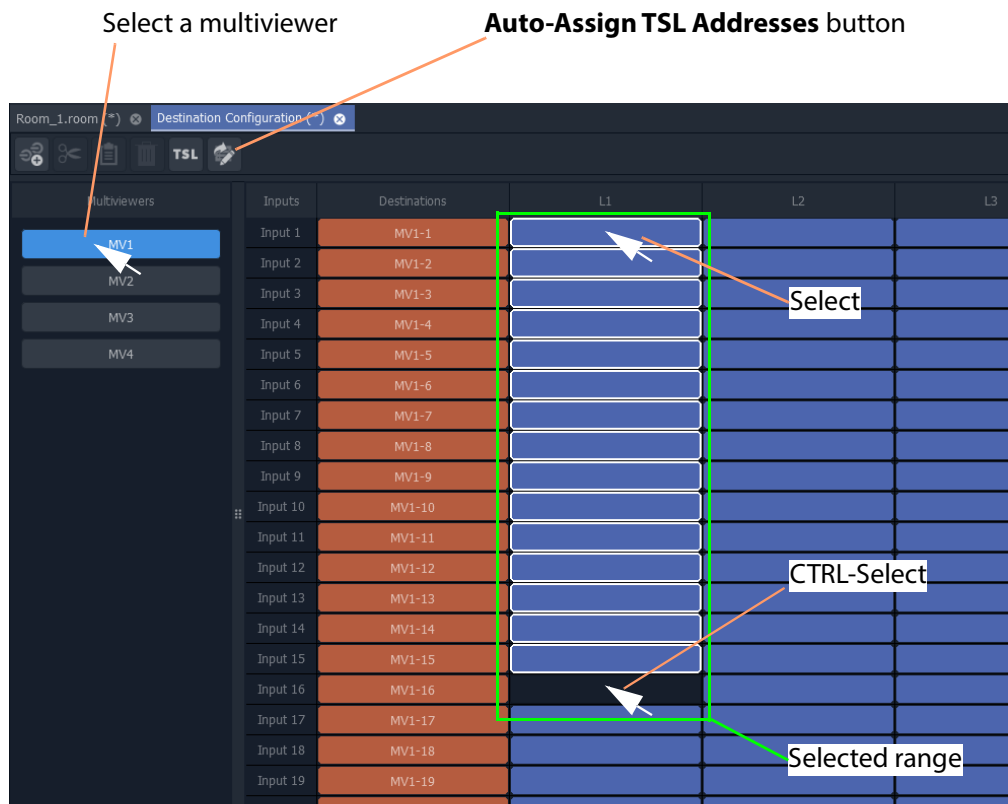

Fig. 17-3: Destination Configuration Tab - TSL Tally Level Config Columns
- 1 Select a multiviewer. (See Figure 17-3.)
This selects the TSL addresses to be filled out. See Figure 17-3.